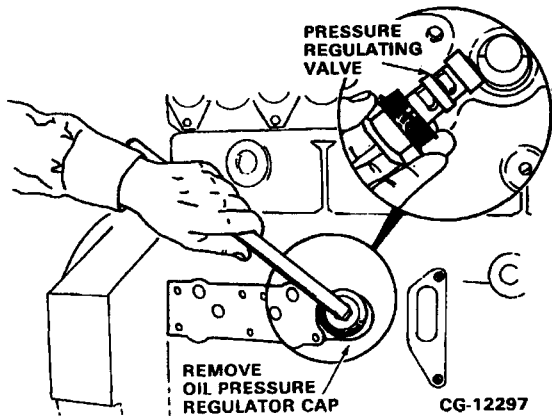

Figure 9.37. Remove Oil Pressure Regulating Valve
1. Loosen and remove the oil pressure regulating cap. Refer to Figure 9.37.
2. Pull the regulating valve assembly out of the crankcase. Refer to Figure 9.37. Discard the cap gasket.
1. Insert the pressure regulating valve assembly into the crankcase. See Figure 9.37 (Insert).